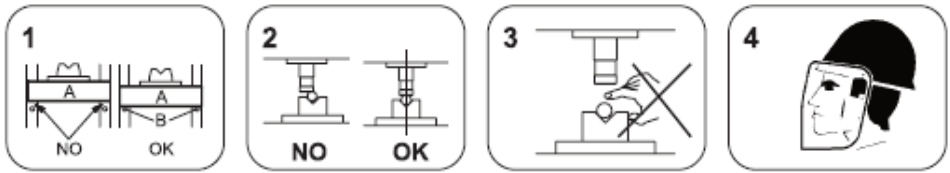

FIG 16
**⚠ WARNING** To reduce risk of injury, read and understand separately provided safety instructions and safety information reported on the press Fig.16.